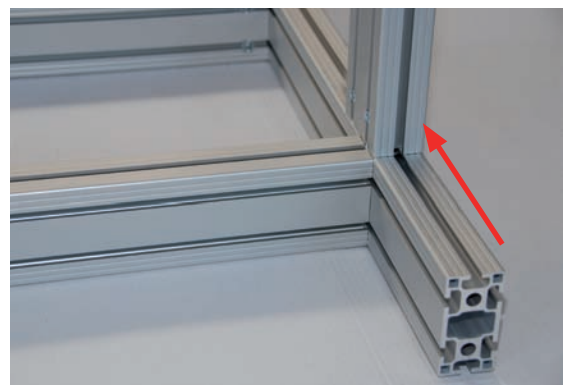

fig. 3.1-18
Step ③ Shove the side supports **A2a** from the front into the lead channels of the frame base. Move them to a third of the whole length of the frame base profile **A1a** (fig. 3.1-18).